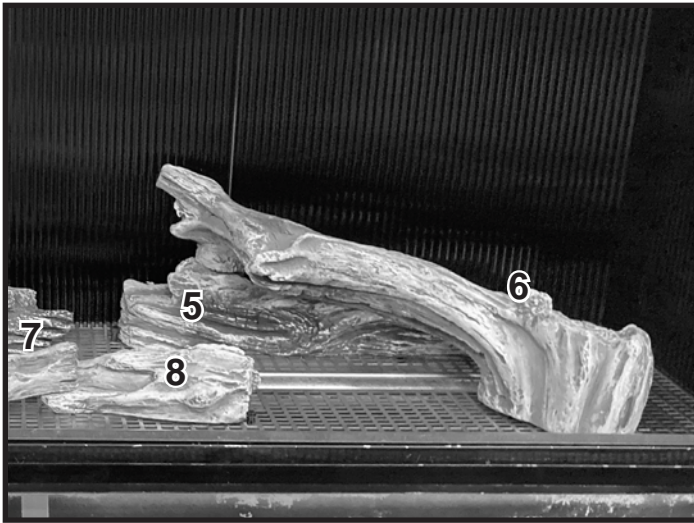

Figure 7 Install Log #6
**Log #6:** Insert the left side support feature of Log #6 into the recess on Log #5. Pivot the right side of the log forward as far as it can go. Ensure the log is stable and fully engaged with Log #5, the supporting log. See Figure 7.